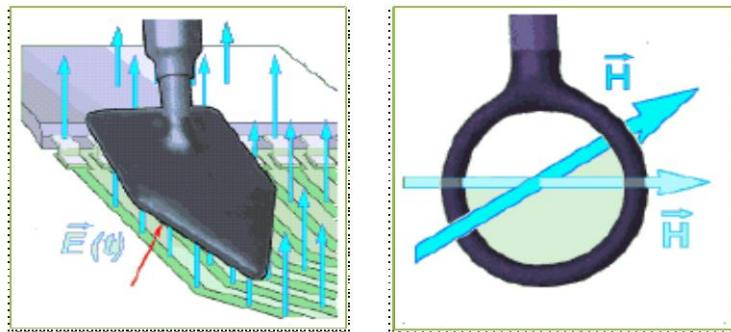

Figure 2: Near field E and H probes used to identify EMI sources
The most simple form of pre-compliance measurements for radiated emissions can be performed using a spectrum analyzer, like the Rigol DSA-815 (9kHz to 1.5GHz), and near field electric (E) and magnetic (H) probes as in **Figure 2**.